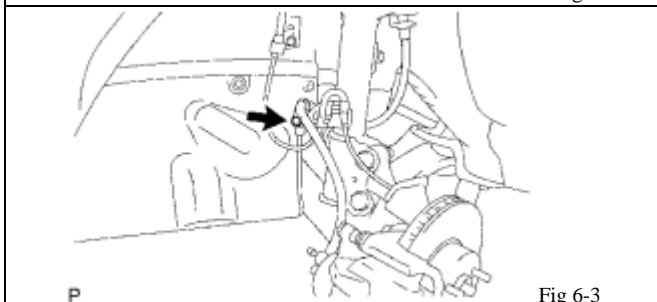

Fig 6-3
- (c) Install the front No. 1 flexible hose and speed sensor with the bolt. (Fig 6-3)